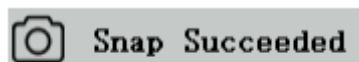

Figure 3-2
2. The screen shows "Take Successfully", which means that the picture has been taken successfully. This is shown in Figure 3-2.